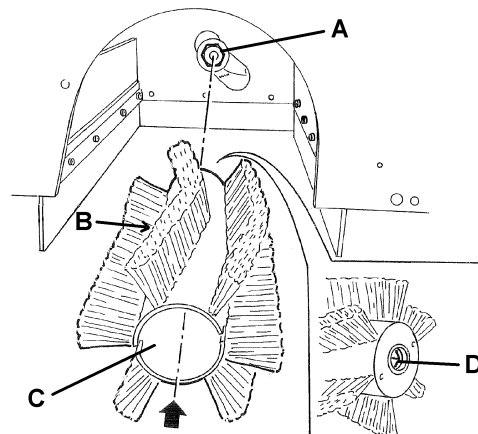

Figure 6
7. Check that the drive hub (A, Fig. 6) is free from dirt or foreign materials (ropes, rags, etc.) accidentally rolled up.
8. The new main broom must be installed with the bristles rows (B, Fig. 6) bent as shown in the figure.
9. Install the new main broom (C, Fig. 6) and ensure that the mesh (D) correctly fits into the relevant drive hub (A).